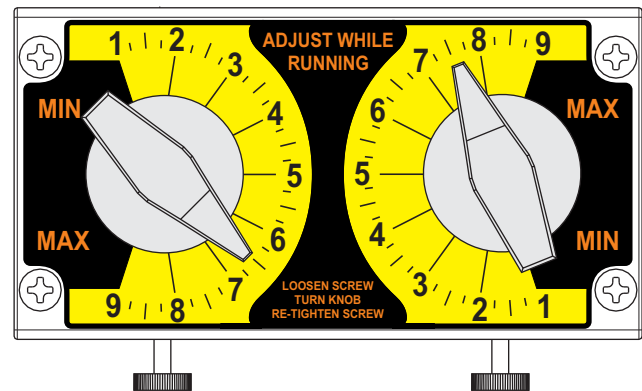

FIG. 5.1
5.1 Adjusting the Pump Output- Standard models (fig. 5.1) - The C-1700N flow rate(s) can be adjusted within a range of 5% -100% of maximum output (20:1 turndown ratio) by means of two mechanical, cam type mechanisms. The mechanism adjusts the pump's stroke length to an infinite number of settings within the flow range. Because the pump's output is reduced by increasing the pressure of the system being injected into, the amount of suction lift, and the viscosity of the fluid being injected, the pump must be over-sized to allow for these factors. Sizing the pump to allow adjustment within the midrange is preferred to maintain accuracy. Consult the factory for individual pump model output curve data.